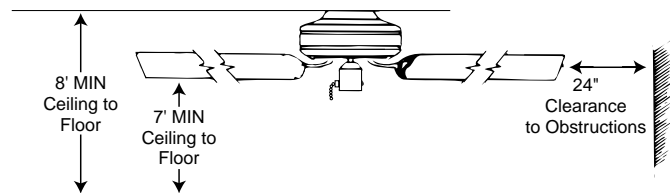

FIGURE 1
- B. Installation hardware is included for a standard drywall or plaster ceiling. You will need a 4" x 1-1/2" or 4" x 1/2" octagon outlet box and wire nuts (3) which can be purchased from any hardware store or electrical supply house.
- C. The fan blades must be mounted at least 7' above the floor. For maximum efficiency, they should not have any obstruction (walls, posts, etc.) within 24" of the blade tips. See Figure 1 for mounting distances.